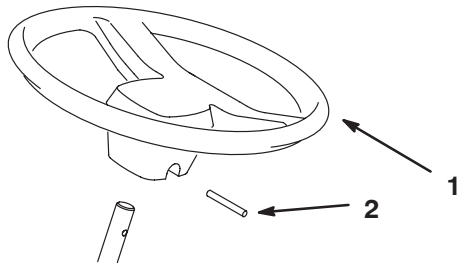

Figure 1
2. Slide the steering wheel onto the steering shaft, aligning the mounting holes (Fig. 1).
3. Secure the steering wheel in place with the roll pin (Fig. 1).